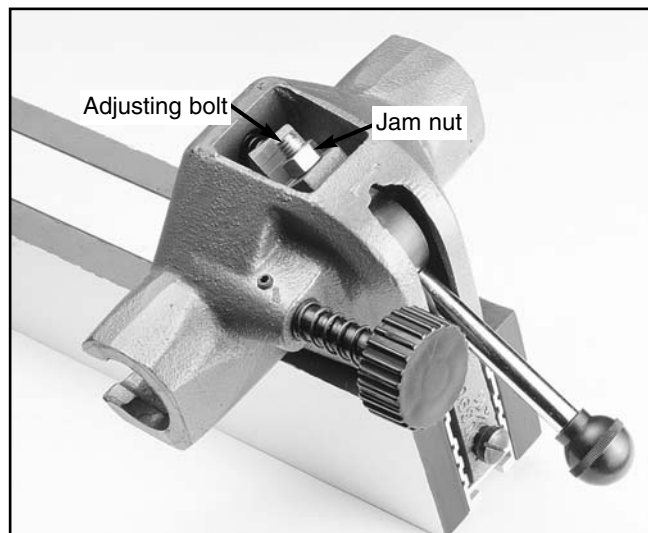

Figure 26.
1. First, make sure the front clamp is engaging the front tube with the lock handle at one half its throw. If the front clamp requires adjustment, loosen the check nut. **Figure 26.** Turn the adjusting bolt in if the front clamp is too far from the tube, out if it is too close.